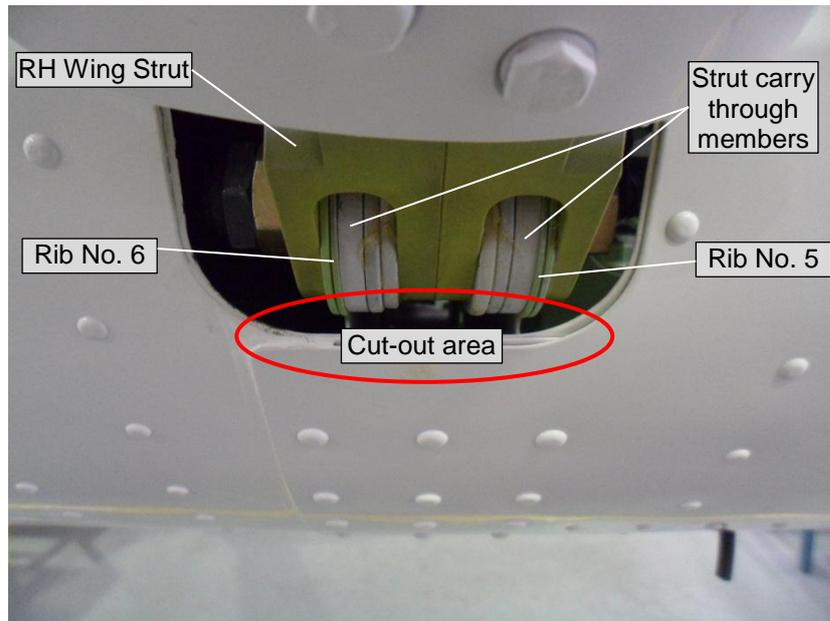

Figure 3: Belly Skin Cut-Out
5. Open up the lower part of the cut out (Figure 3) within the fuselage belly skin to match rib modification prescribed in step 6. Maintain radius of 1.0 in (25.4 mm) around the corners of belly skin.